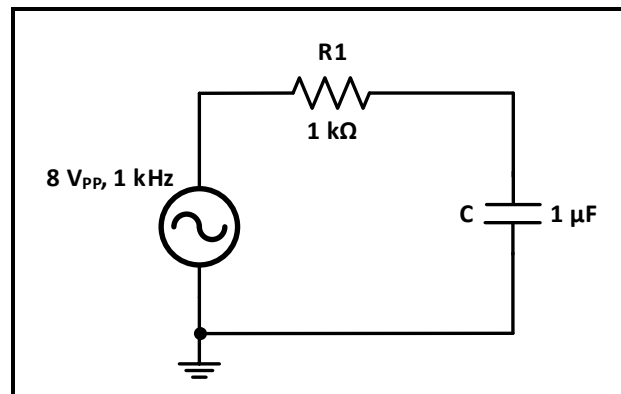

Figure 2.15
1. Connect the circuit shown in Figure 2.15, set the input voltage to sinusoidal voltage at 8 V_{PP} and 1 kHz (you will need to connect channel 1 of the oscilloscope to the input voltage).